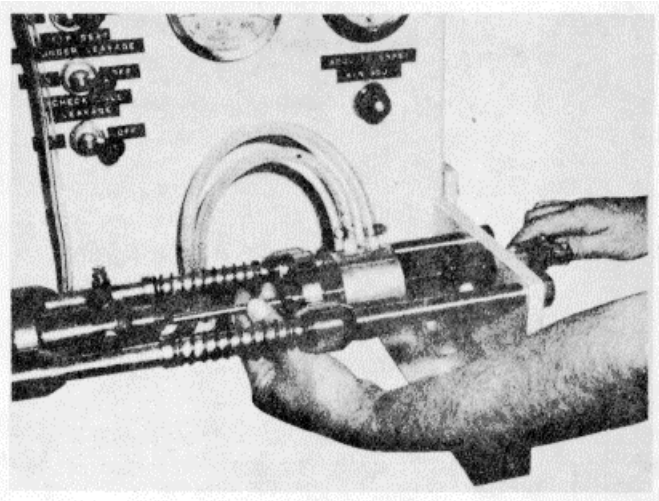

Figure 16H-42. Installing the Injector in the Leakage Tester
5. Insert the 3375398 Link without the 3375397 Adapter. Install the entire assembly into the injector guide, link end first. Secure in place with the locking lever, Figure 16H-42.